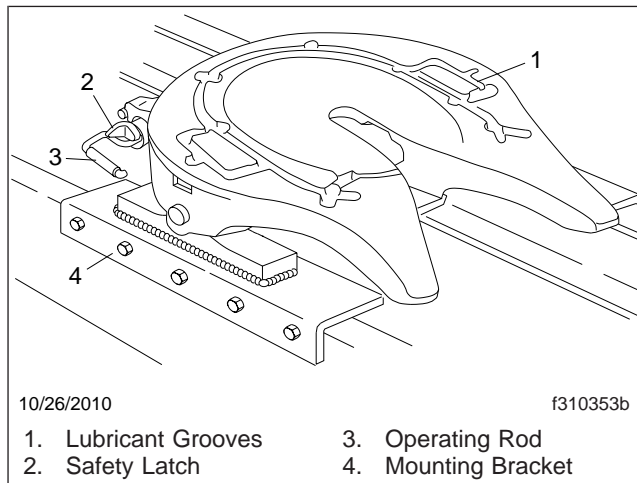
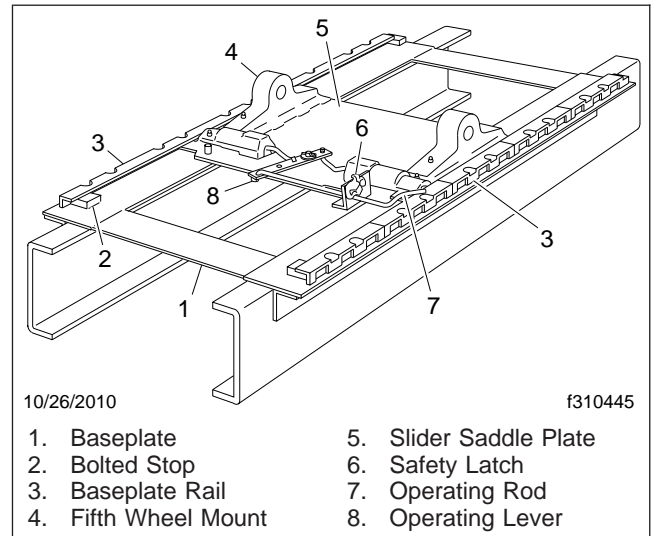

Fig. 10.8, Simplex Stationary Fifth Wheel
Fig. 10.9, Taperloc Slide, Manually-Operated Release
The ASF Castloc® II and Simplex® series fifth wheels are used for pulling trailers having the standard 2-inch (51-mm) diameter kingpin. When installed as a stationary fifth wheel (**Fig. 10.8**), they are bracket-mounted to the tractor frame in a position that best distributes the trailer load over the tractor axles. When used as a sliding fifth wheel (**Fig. 10.9**), they are mounted on the Taperloc® sliding mount (air-operated or manual release).
The manually-operated slide contains an operating rod (**Fig. 10.9**) which unlocks both sides of the plate at the same time.
Before attempting to unlock the fifth wheel lock mechanism of a sliding type fifth wheel, the slide operating rod (Fig. 10.9) must be in the locked position, and the slide lockpins must be in the locked position (fully inserted in baseplate rail slots). This prevents the sliding member from moving rapidly to the far forward or rearward position, which could damage the fifth wheel member or kingpin.
- 3.2 For manually-operated models, raise the safety latch and pull the slide operating rod (**Fig. 10.9**) outward until the shoulder is outside of the operating rod support, then lower the operating rod as far as it will go.